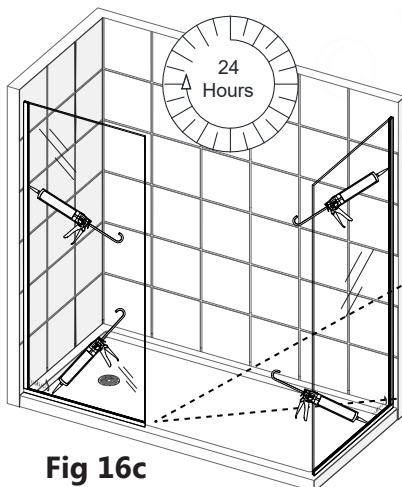

Fig 16c
- After the installation of both panels, apply a 100% mildew-resistant silicone along the **Vertical (#09) and Bottom (#29) U-Channel(s)** where it meets the wall and threshold from inside of the shower, as shown in **Fig. 16c**. Apply silicone along the outside perimeter, if desired.